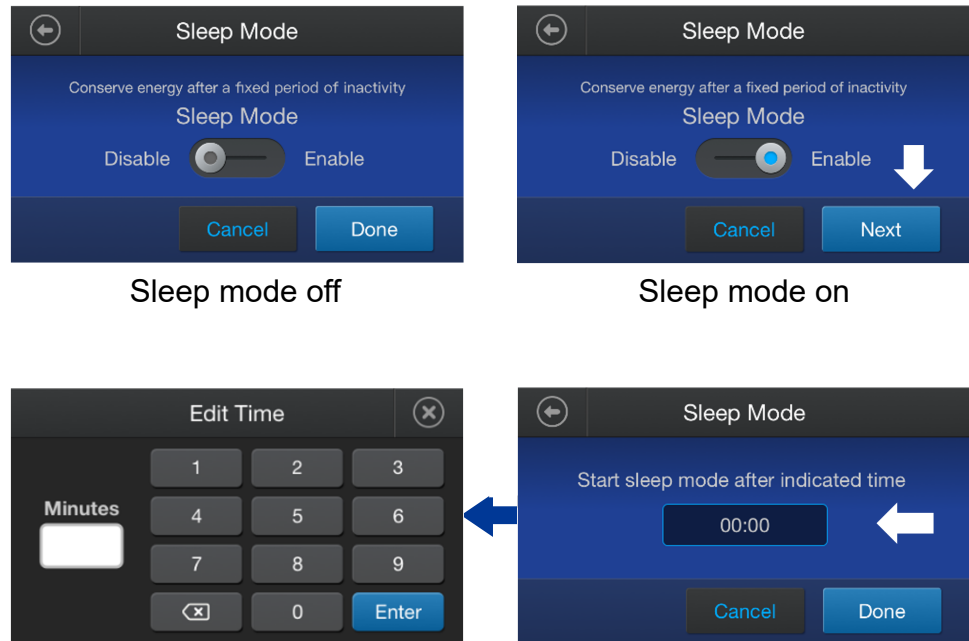

Figure 15 Sleep mode settings
Allows adjustment of the inactivity time before the screen enters sleep mode (screen dark). The default sleep mode setting is **Enable** and set to 2 minutes (see Figure 15).
3. Touch the time field and use the **Edit Time** screen to adjust the time (see Figure 15), then touch **Done**.